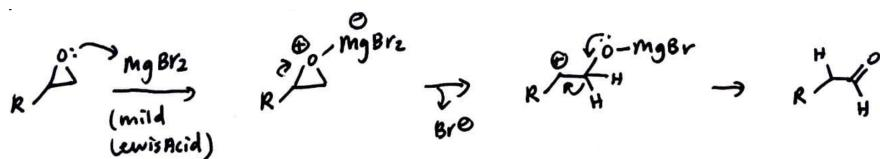

Figure 6.18: Epoxide-aldehyde rearrangement.
- We start with an alkene, turn it into an epoxide, open it as in Figure 6.18, and then reduce it.